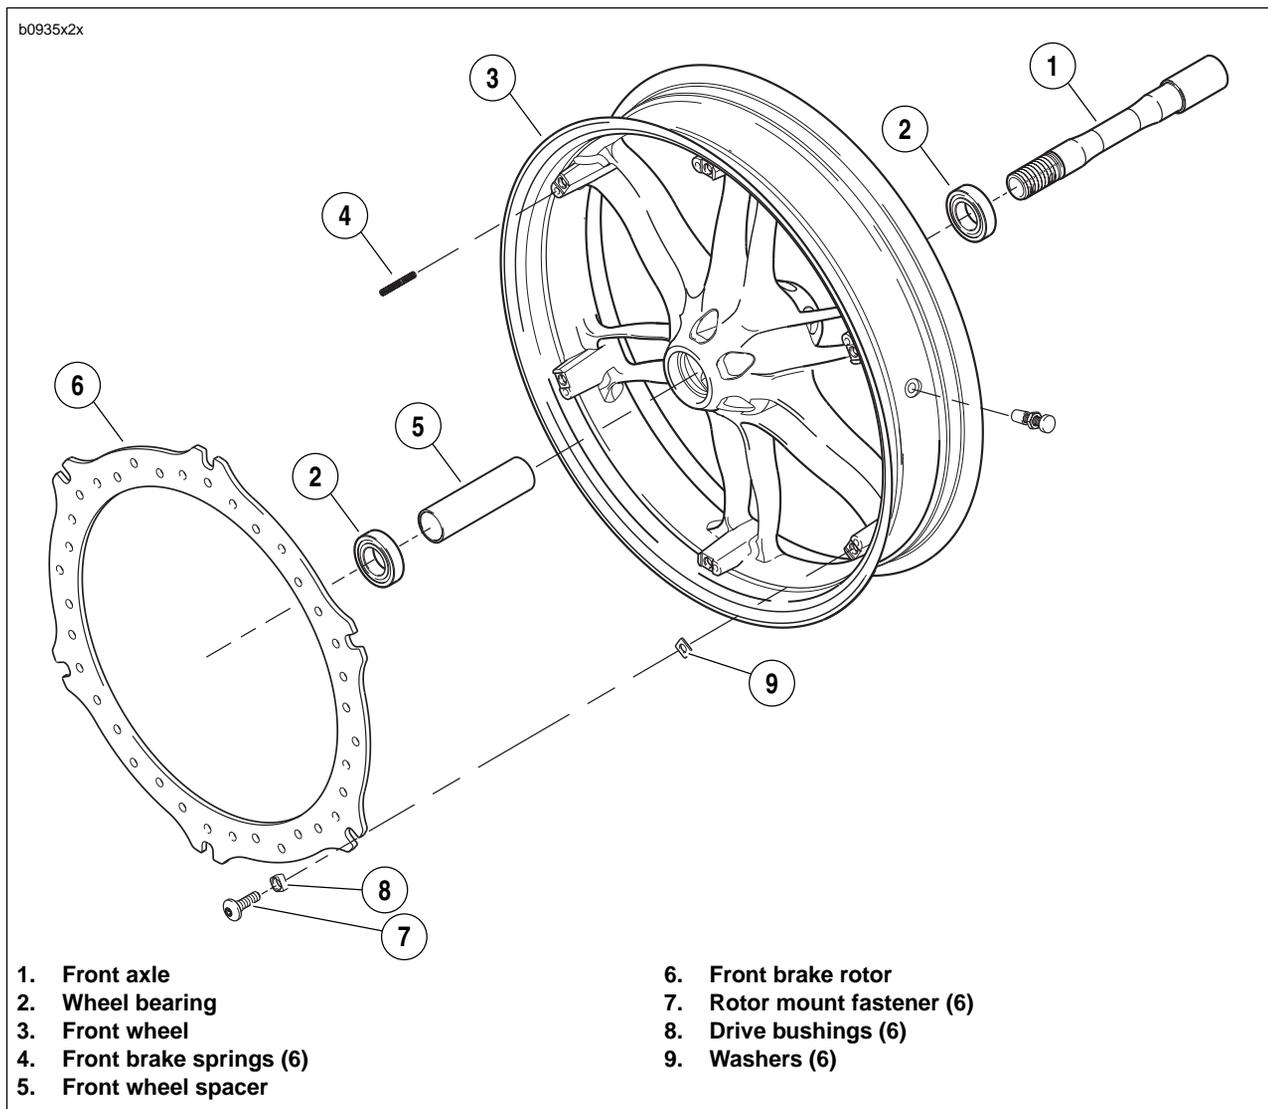

Figure 2-18. Front Wheel Assembly
1. See Figure 2-18. Remove and discard rotor mounting fasteners (7).
2. Remove and inspect brake rotor (6) for wear and warping. See 1.8 TIRES AND WHEELS.
3. Remove drive bushings (8) and discard.
4. Remove washers (9) and discard.
5. Remove rotor spring (4) and discard.
1. See Figure 2-18. Install spacer (5).
2. Install **new** wheel bearings (2) into hub using suitable driver. Press on outer race only.
1. See Figure 2-18. Install **new** spring (4).
2. Install **new** washers (9).
3. Install **new** drive bushings (8) into rotor.